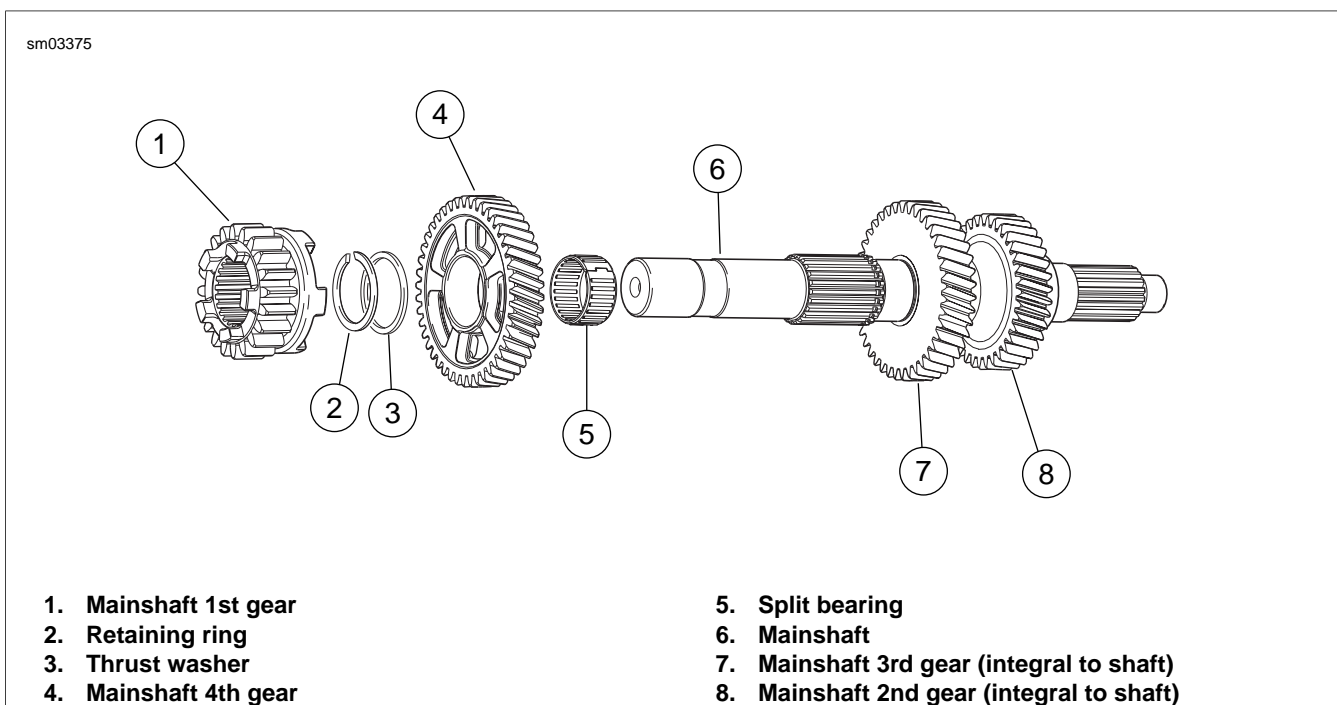

Figure 6-45. Transmission Mainshaft Assembly Once Removed from Left Crankcase/Disassembly
1. See Figure 6-45. Install **new** split bearing (5) in 4th gear position on mainshaft.
2. Install 4th gear (4) and thrust washer (3).
3. Using RETAINING RING PLIERS (Part No. J-5586-A), expand and install new retaining ring (2).
4. Install 1st gear (1).